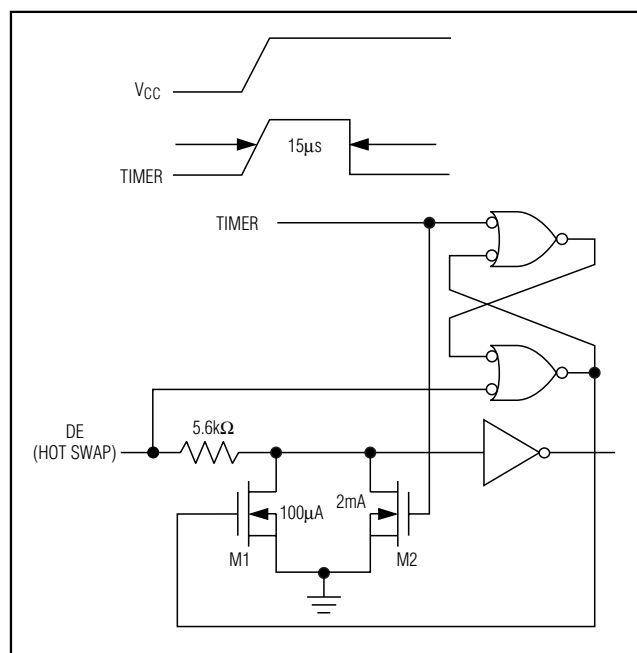

Figure 10. Simplified Structure of the Driver Enable Pin (DE)
At the driver-enable input (DE), there are two NMOS devices, M1 and M2 (Figure 10). When VCC ramps from zero, an internal  $15\mu\text{s}$  timer turns on M2 and sets the SR latch, which also turns on M1. Transistors M2, a  $2\text{mA}$  current sink, and M1, a  $100\mu\text{A}$  current sink, pull DE to GND through a  $5.6\text{k}\Omega$  resistor. M2 pulls DE to the disabled state against an external parasitic capacitance up to  $100\text{pF}$  that may drive DE high. After  $15\mu\text{s}$ , the timer deactivates M2 while M1 remains on, holding DE low against three-state leakage currents that may drive DE high. M1 remains on until an external current source overcomes the required input current. At this time, the SR latch resets M1 and turns off. When M1 turns off, DE reverts to a standard, high-impedance CMOS input. Whenever VCC drops below  $1\text{V}$ , the input is reset.